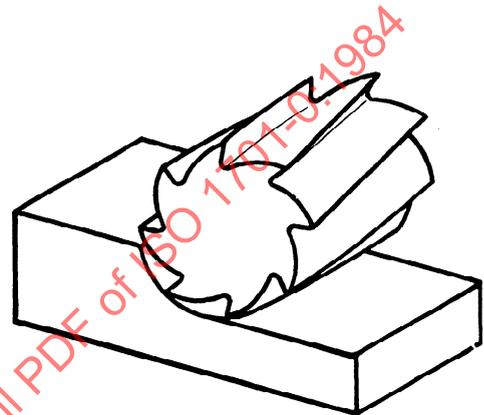

Figure 1 — Slab milling operation
- slab milling operations (see figure 1);